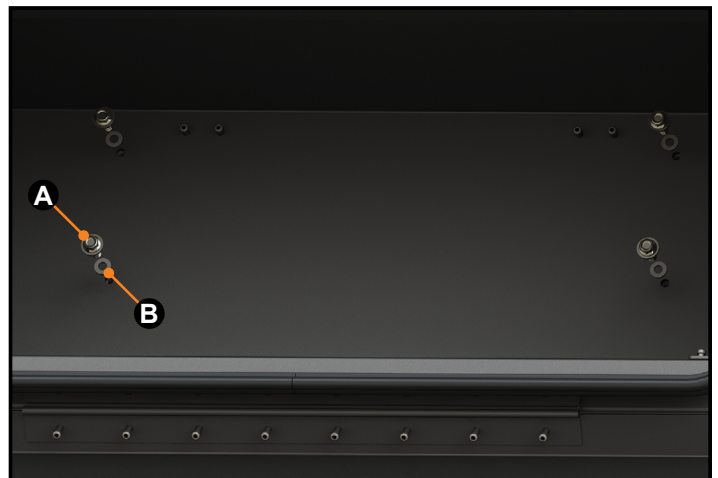

Fig.3
5. Insert bolt in one of 4 holes in the back of the storage box and secure in the pre-installed rivet nut in the mounting bracket (Fig. 3).